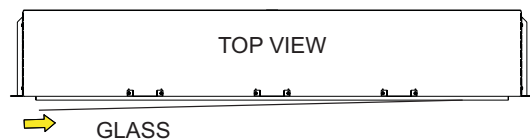

Figure 55
2. Replace the glass front into the fireplace by placing the right side into the slots in the firebox. Carefully angle in the left side of the glass and then slide the glass to the left. Settle the glass into the slots by gently lowering it. See Figures 55 - 58.